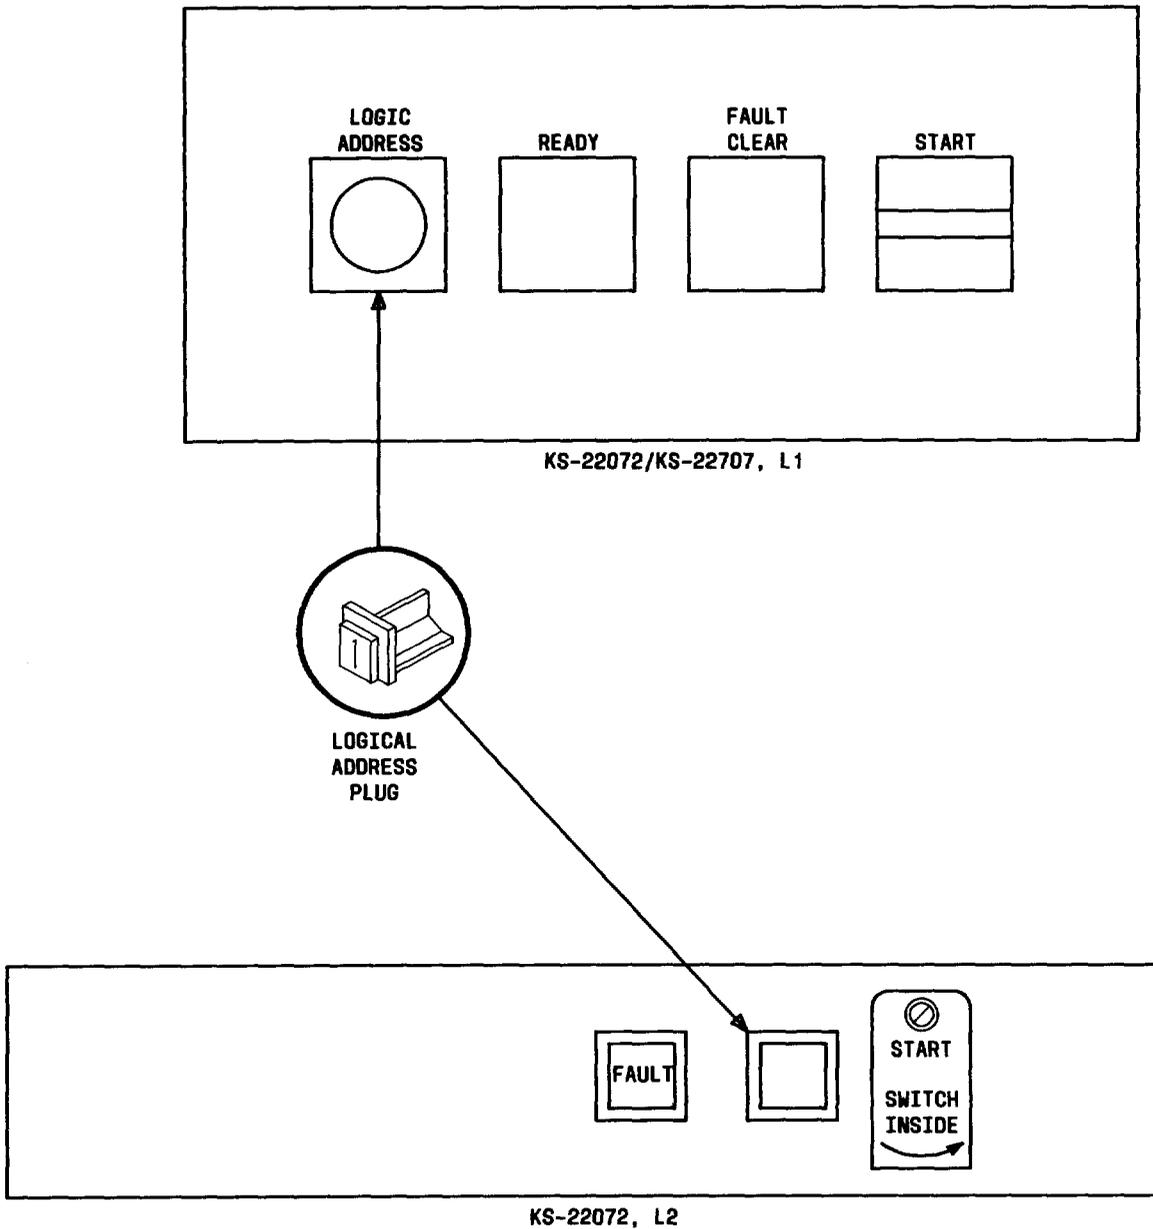

Fig. 5—Operator Control Panels
2.04 Figure 5 shows the KS-22072/KS-22707, L1, and KS-22072, L2, operator control panels. Table A lists the L1 operator controls and their functions, and Table B lists the L2 operator controls and their functions.